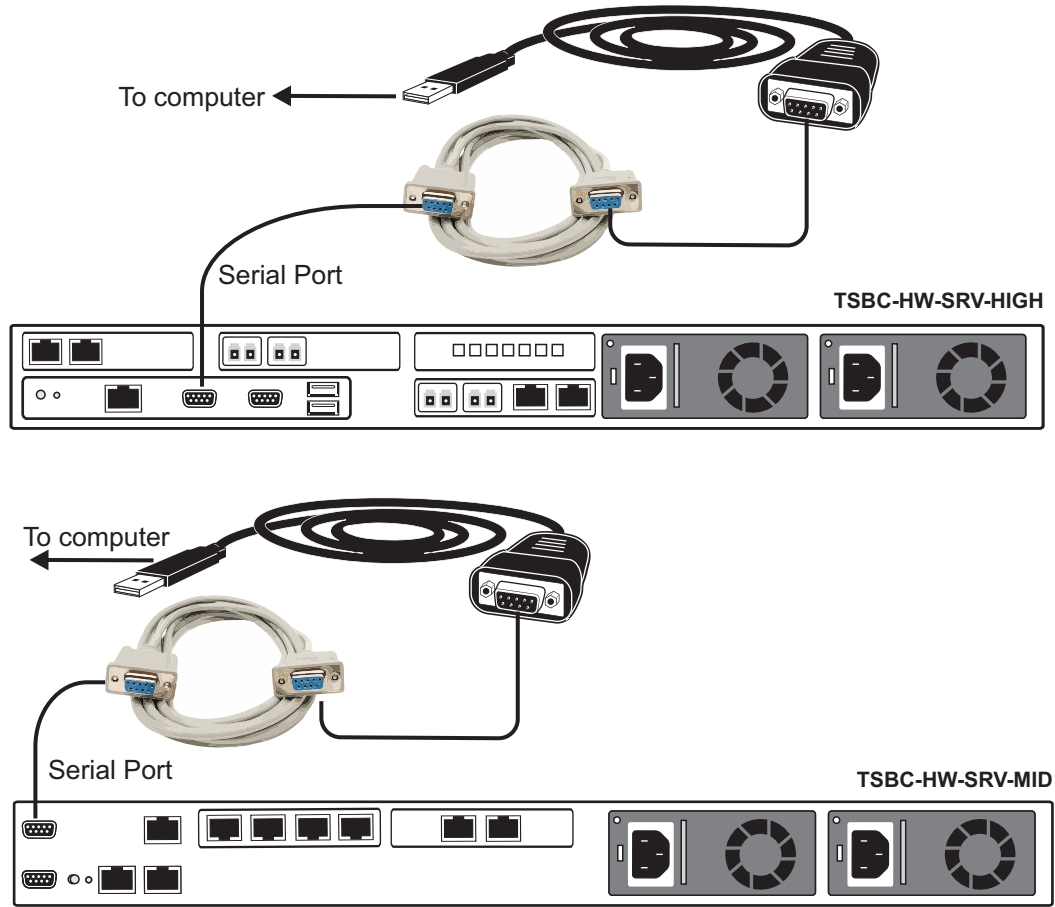

Figure 7.3 USB to DB9 Adapter
1. Connect the USB connector of the cable to a USB port on your computer and the DB9 male connector of the cable to one end of a null modem DB9 female-female cable. Connect the other end of the null modem DB9 female-female cable to the DB9 serial port of the TSBC-HW-SRV. See Figure 7.3 on page 40.